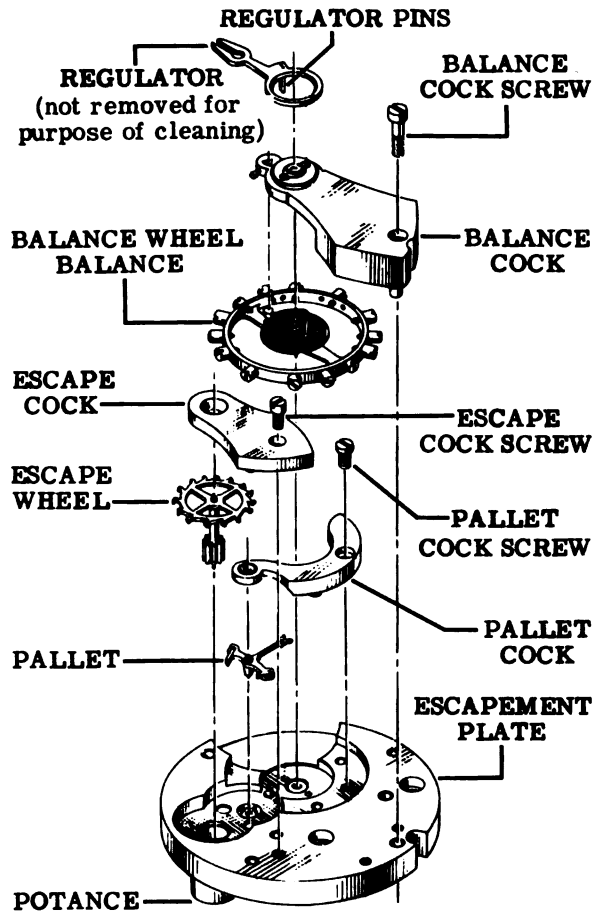

Figure 68—Elgin Escapement (R-20695)
- A. In the Elgin escapement, there are separate cocks for the pallet and the escape wheel—each cock being held down by one screw. Refer to Fig. 68. Unscrew the pallet cock screw, remove the escape cock and lift out the escape wheel